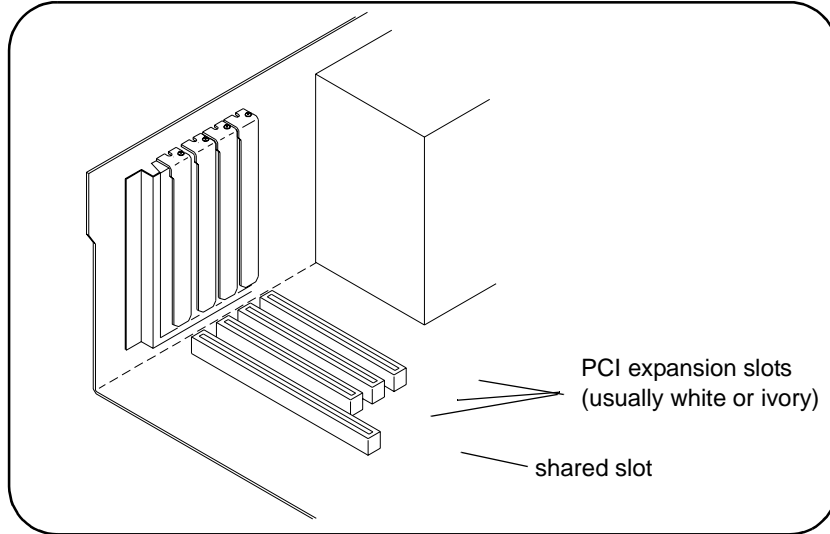

Figure 2-2. Locating a PCI bus Expansion Slot.
- B. Locate an unused, unobstructed PCI bus expansion slot (Figure 2-2) that supports bus mastering. (PCI bus slots are usually white or ivory.) See your computer documentation to determine if the PCI slot supports bus mastering.